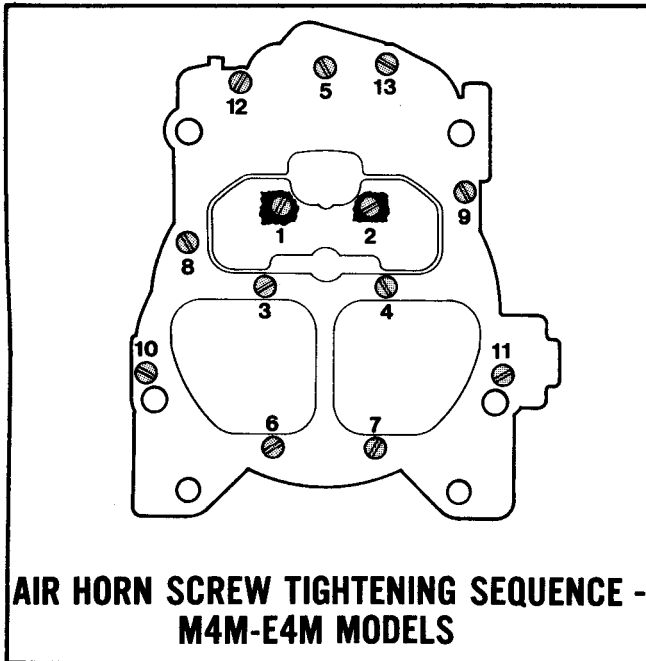

Figure 70 Air Horn Screw Tightening Sequence
3. Install air horn to float bowl attaching screws. (Early models have (9), late models have (13), see Figure 70). The (2) long screws go through the secondary side of the air horn at rear and (2) countersunk screws go inside primary bores next to venturi. Install air valve lockout guard (if used) under intermediate length screw (#4 in Figure 70) and secure with self-tapping screw. If used, install air horn baffle (secondary side) beneath #3 and #4 air horn screws. Air horn screws (except countersunk screws) may or may not use lockwashers dependent upon application. Tighten all screws evenly and securely (see Figure 70 for proper tightening sequence).